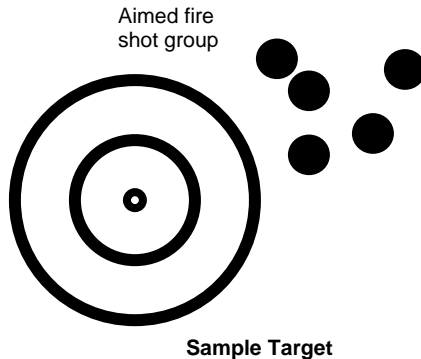

Figure 2-6: Aimed fire shot group
2. Fire three to five aimed individual rounds (Figure 2-6).